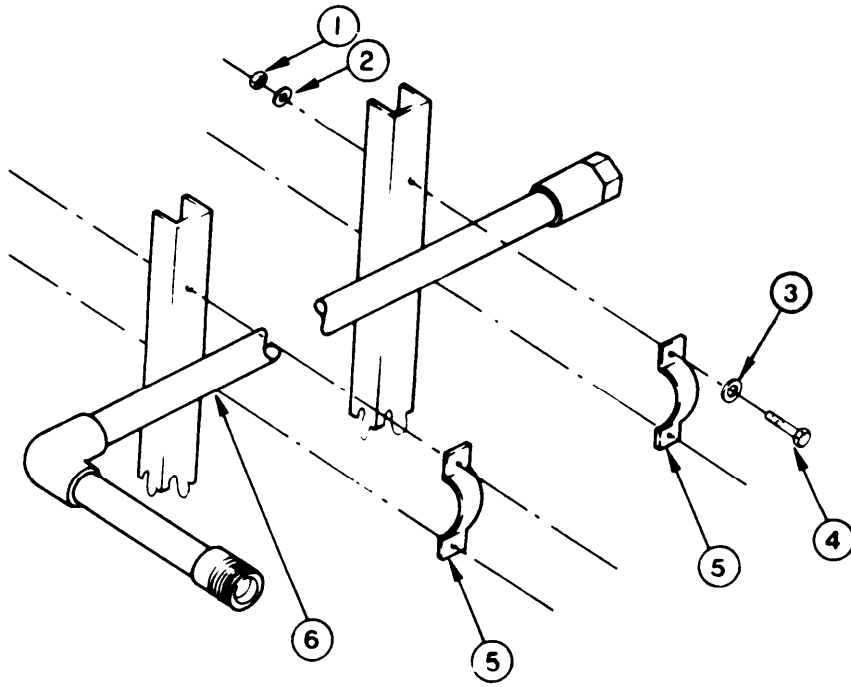

Figure 2-98. Pipe (Typical)
2-82. COMMON FITTINGS AND LINES. (Figure 2-98)
d. Installation. (Figure 2-98)